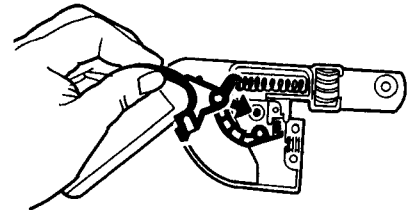

FIG 34
4. If fitted with switch trigger with top hook #43288 and switch trigger compression spring #43198, fit trigger then compression spring (Fig.34).